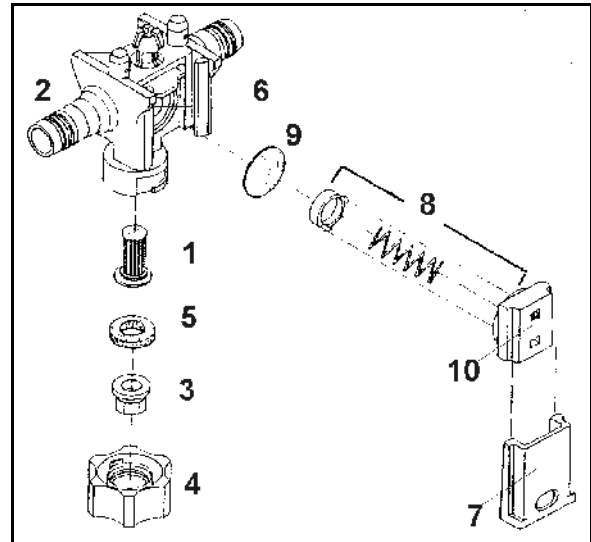

Fig. 151
From time to time, check the seating of the slider (Fig. 151/7).
- To do this, insert the slider into the nozzle body (Fig. 151/2) as far as possible using moderate thumb pressure.
- Insert the nozzle filter (Fig. 151/1) into the nozzle body (Fig. 151/2) from below.
- Insert the nozzle (Fig. 151/3) into the bayonet nut (Fig. 151/4)
- Insert the rubber seal (Fig. 151/5) above the nozzle.
Deposits on the diaphragm seat (Fig. 151/6) can cause the nozzles to drip after the boom is shut-off. If this occurs, clean the diaphragm in question as follows:
- Pull the slider (Fig. 151/7) out of the nozzle body (Fig. 151/2) towards the bayonet nut.
- Remove the spring element (Fig. 151/8) and the diaphragm (Fig. 151/9).
- Clean the diaphragm seat (Fig. 151/6).
Note the correct orientation for installing the spring element. For installation, the stepped, upwards-sloping edges on the left and right of the housing of the spring element (Fig. 151/10) must slope up in the direction of the boom profile.